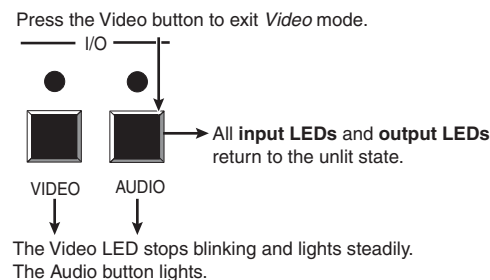

Figure 3-50 — Exit Video mode
5. Press and release the Video button to exit the Video mode (figure 3-50).